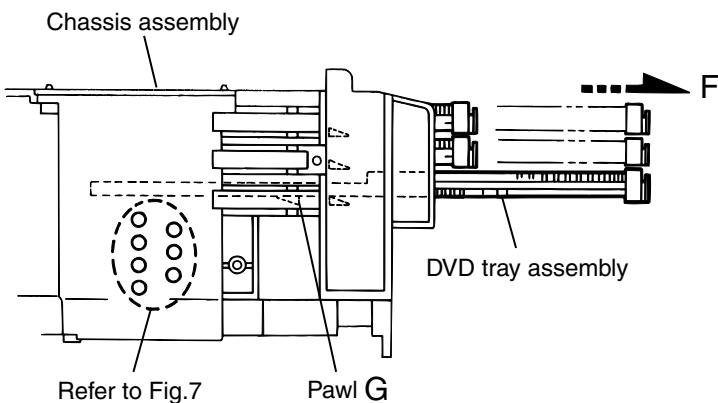

Fig.6
12. Make sure that the driver unit elevator is positioned as shown in Fig.6 from the second or fifth hole on the left side face of the DVD Traverse mechanism assembly.
14. Pull out all of the three stages of DVD tray assembly in the arrow direction "F" until these stages stop (See Fig.6).